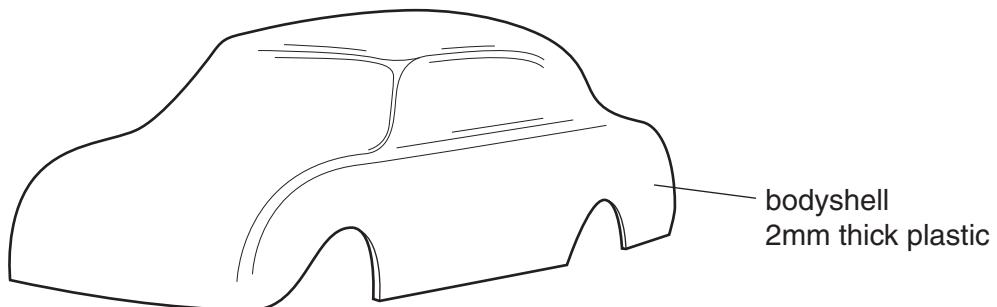

Fig. 7
- 5 Fig. 7 shows a bodyshell for a child's toy car. It is made by vacuum forming.
- (b) Use sketches and notes to show how the bodyshell shown in Fig. 7 could be produced by vacuum forming.